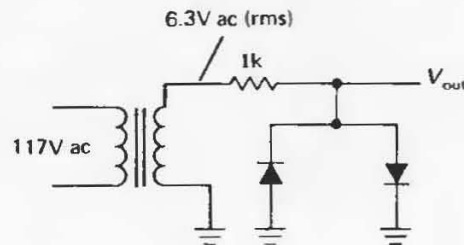

Figure 1.110
(7) Sketch the output for the circuit shown in Figure 1.110.
(8) Design an oscilloscope “ $\times 10$ probe”